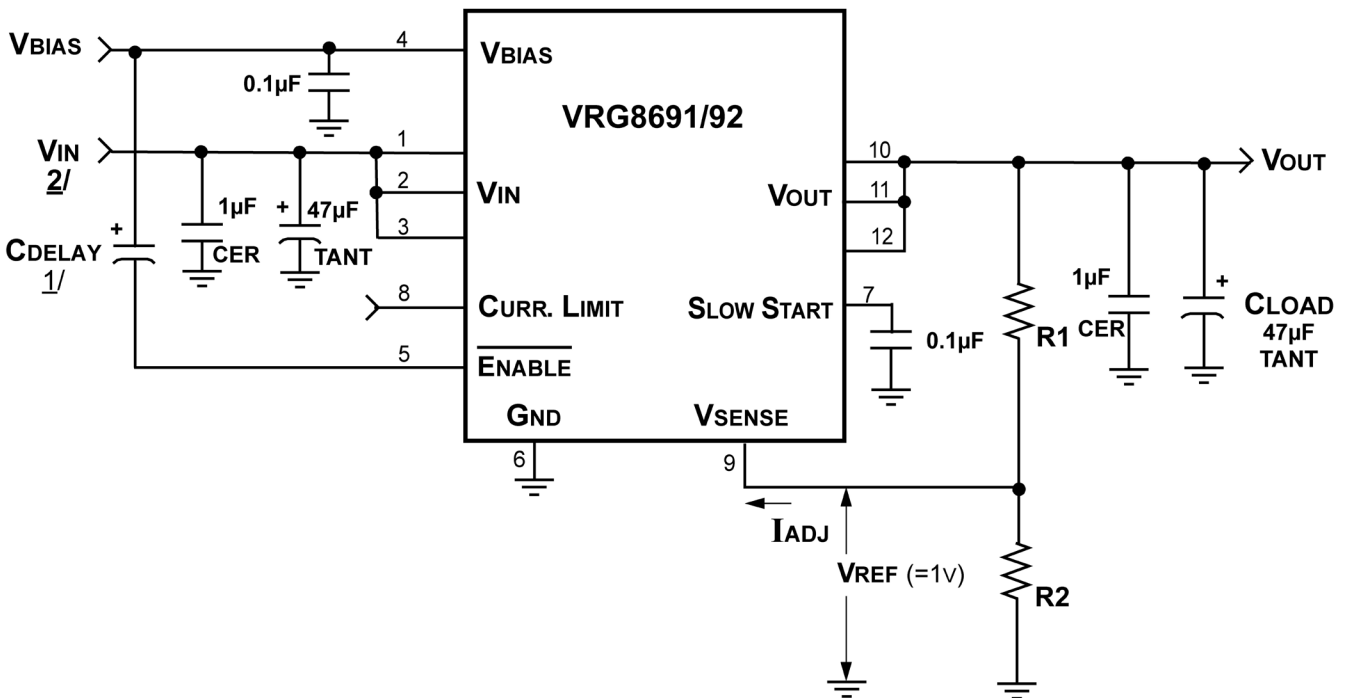

Figure 5 – Delayed Enable
(See Application Note 3, Figure 5 for the configuration where a separate \overline{ENABLE} control line is NOT required).
- Connect a C_{DELAY} capacitor between V_{BIAS} and the $\overline{\text{ENABLE}}$ as shown in Figure 5 below. $\frac{2}{/}$